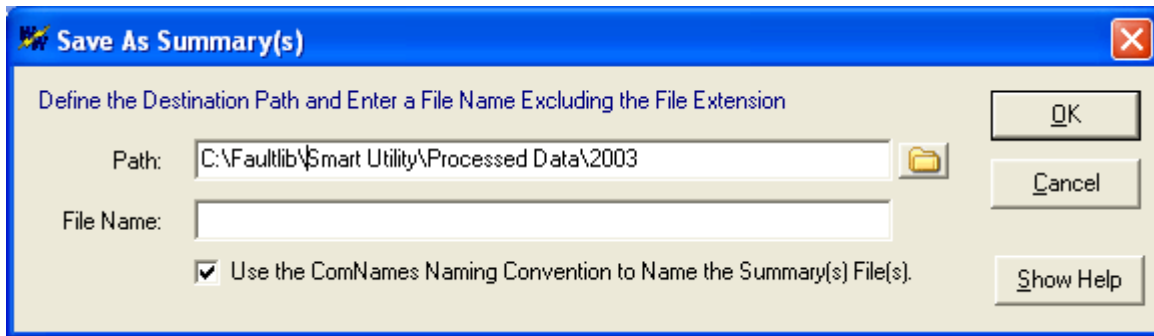

Figure 1.23 Summary Destination Dialog
- **Process & Create Summaries** – The process & create summaries will process all the marked *.CSV files in the active directory and create device summary ASCII files for each file processed. A folder destination dialog is displayed. Refer to Figure 1.23. Select the destination folder and define the names for the files. The files are named using the IEEE PSRC Long file naming convention when the “Use ComName” option is checked.